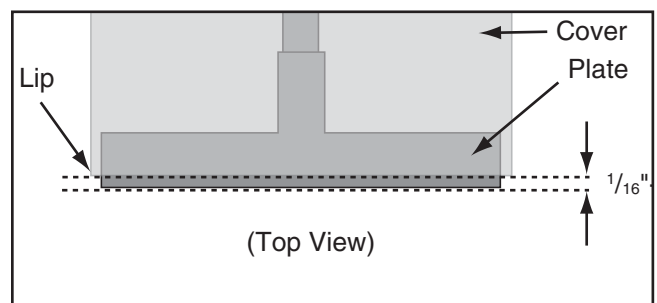

Figure 30. Gap between plate and cover.
22. Adjust the cast iron plate so it protrudes slightly ($\frac{1}{16}$ "- $\frac{1}{8}$ ") beyond the curved lip of the metal cover on both sides, as illustrated in **Figure 30**, to avoid the possibility of workpieces hitting the cover during sanding operations.